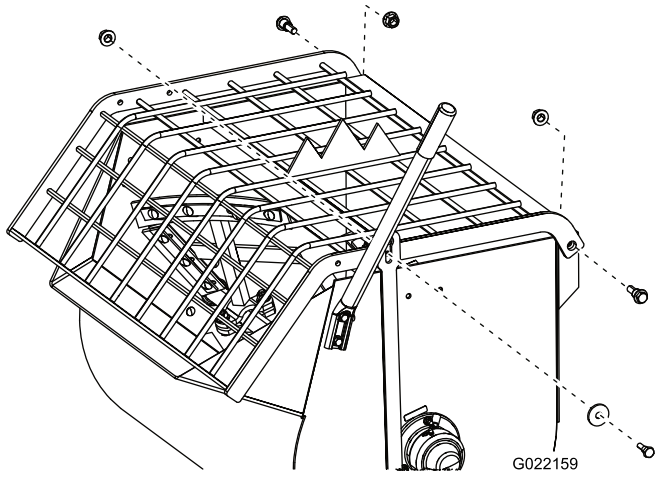
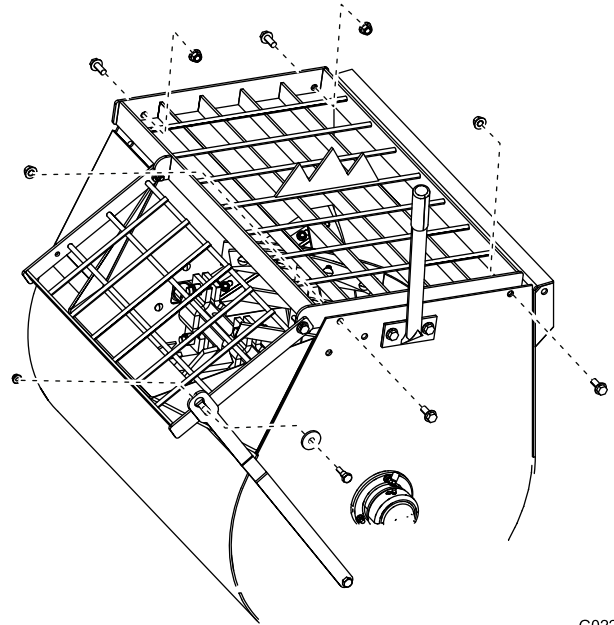
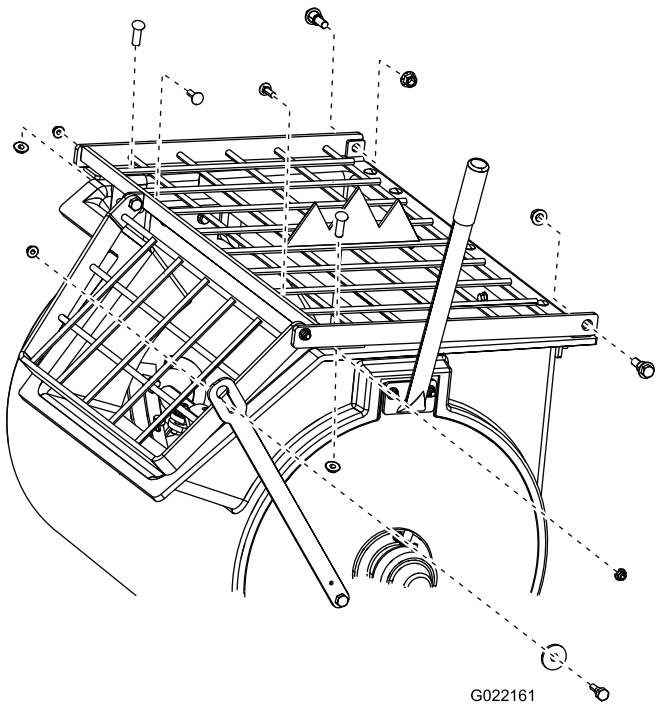

Figure 40
Figure 42
Figure 41
- Remove the nuts and bolts that secure the grate to the drum, and remove the grate (Figure 40, Figure 41, or Figure 42).